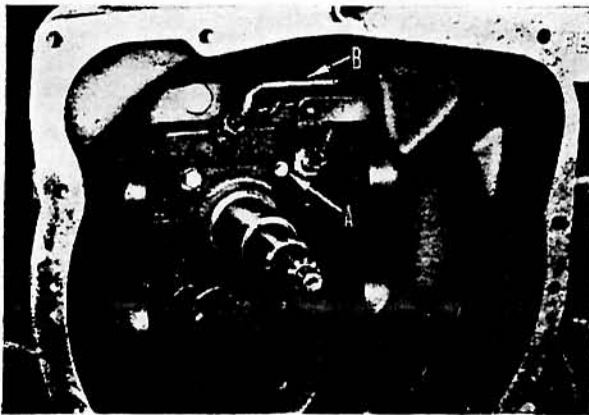

FIGURE 20. MULTI-POWER SHIFT LEVER BRACKET
7. Remove the Multi-Power shift lever bracket by removing the top right main drive shaft setscrew A, Figure 20.
8. Remove pipe assembly B, Figure 20.